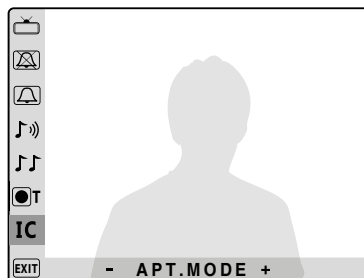

Fig. 4F
- To set the intercommunication for different apartments (videophones with different PHONE ID) press the button — until you select the “APT. MODE” (**Fig.4F**). In stand-by mode, by pressing the button  one or more times you will be able to call the videophones with PHONE ID from 1 to 9.